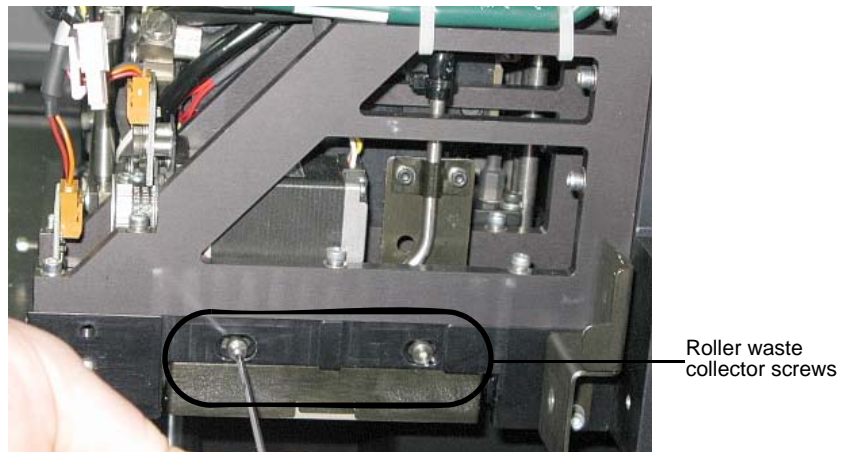

Figure 6-36: Removing the roller waste collector covering
1. Return the roller waste collector to the print block and screw on the covering (see figure 6-36 on page 29).